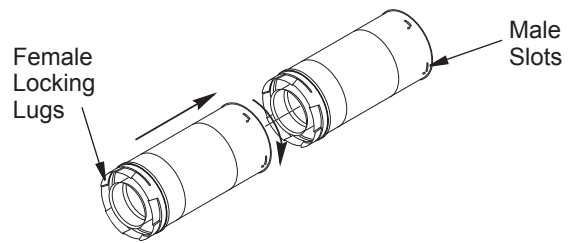

Figure 8 - Vent Pipe Connections
Twist-Lock Procedure: The female ends of the pipes have locking lugs (indentations). These lugs will slide straight into matching slots on the male ends of adjacent pipes. Push pipe sections together and twist one section clockwise approximately one-quarter turn until the sections are fully locked (see Figure 8). **Note:** Horizontal runs of vent must be supported every three feet. Use wall straps for this purpose.
- Assemble the desired lengths of pipe and elbows necessary to reach from the fireplace flue up through the firestop. Be sure all pipe and elbow connections are fully twist-locked (see Figure 8, page 8).